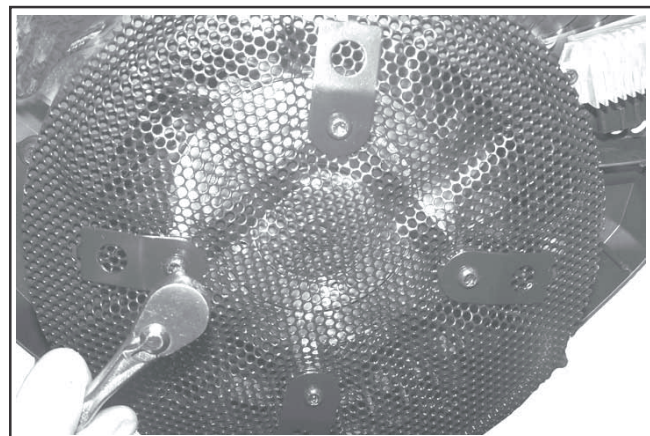

Figure 8-27. Removing Grass Screen Fasteners.
1. Remove the screws, attaching hardware and hex studs securing the grass screen, stiffeners and cooling fan to the flywheel. See Figures 8-27, 8-28 and 8-29.